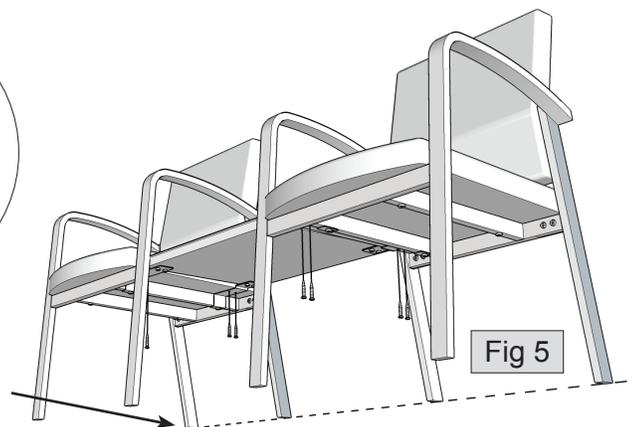

Fig 5
7. With both chairs resting on a level floor, carefully align the back legs so they form a straight line, as shown in figure 5.